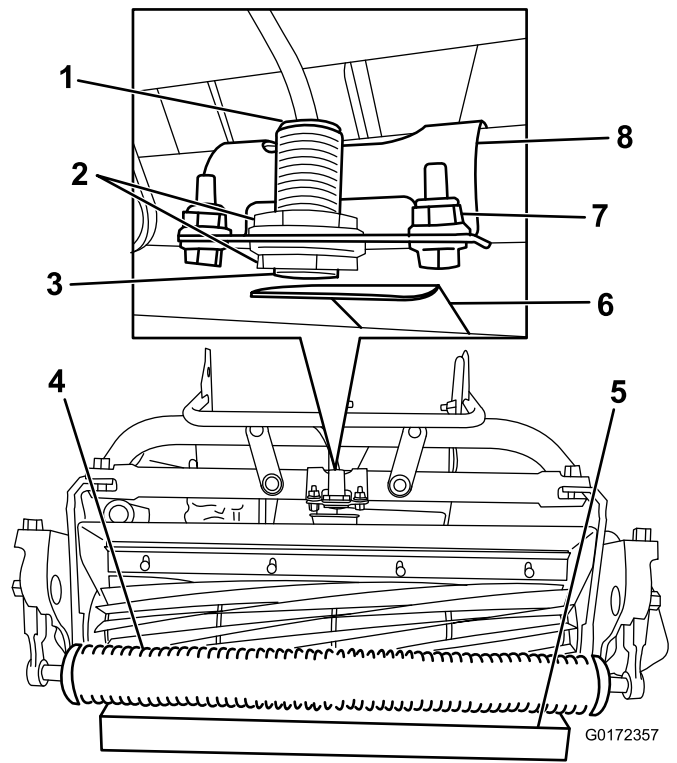

Figure 14
2. Loosen the jam nuts on the sensor and adjust the sensor so that one thread is visible past the lower jam nut (Figure 14).
4. Place a 1-1/2 inch (3.8 cm) block under the front cutting unit roller (Figure 14).
5. Loosen the fasteners securing the sensor bracket to the frame (Figure 14).
8. Rotate the sensor bracket toward the target plate until the light on top of the sensor illuminates (Figure 14). If it was already illuminated, rotate it away from the target plate until it goes out and then reverse direction just until it illuminates again.